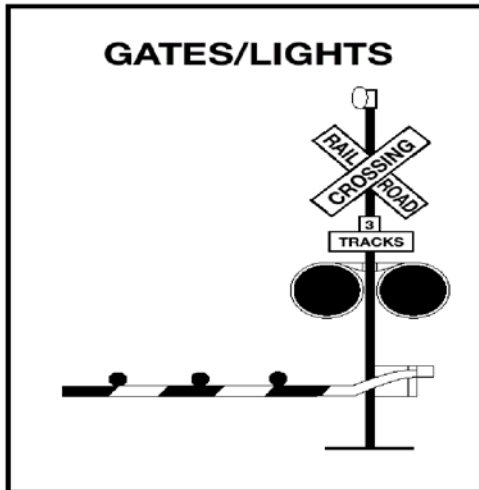

Figure 2.18
**Flashing Red Light Signals.** At many highway-rail grade crossings, the crossbuck sign has flashing red lights and bells. When the lights begin to flash, stop! A train is approaching. You are required to yield the right-of-way to the train. If there is more than one track, make sure all tracks are clear before crossing. See Figure 2.18.
Proceed when it is safe. See Figure 2.18.